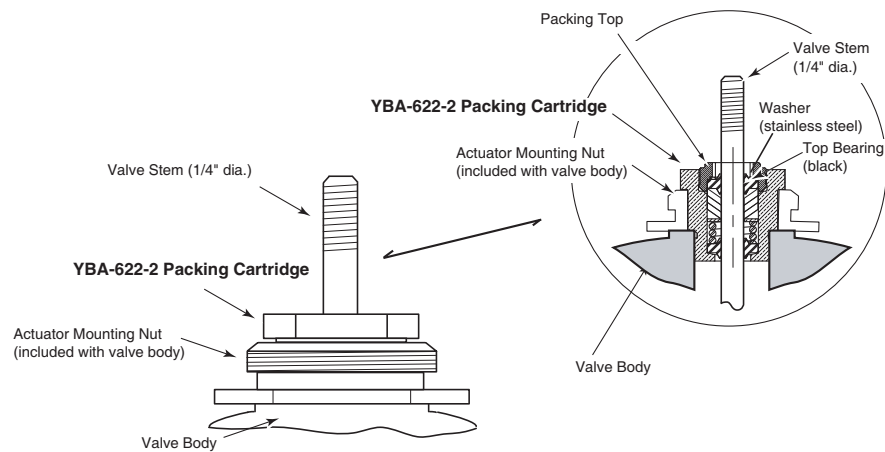

Figure-1 Installation of YBA-622-2 Complete Packing Cartridge into 1/2" to 2" VB-7xxx and 1/2" to 1-1/4" Obsolete VB-9xxx Valves.
- YBA-622-2 can be distinguished from earlier versions by its stainless steel backup washer and black top bearing (refer to Figure-1 ).
**Note:** Packing top (see Figure-1) must be threaded **only one turn** into cartridge before sliding over valve stem